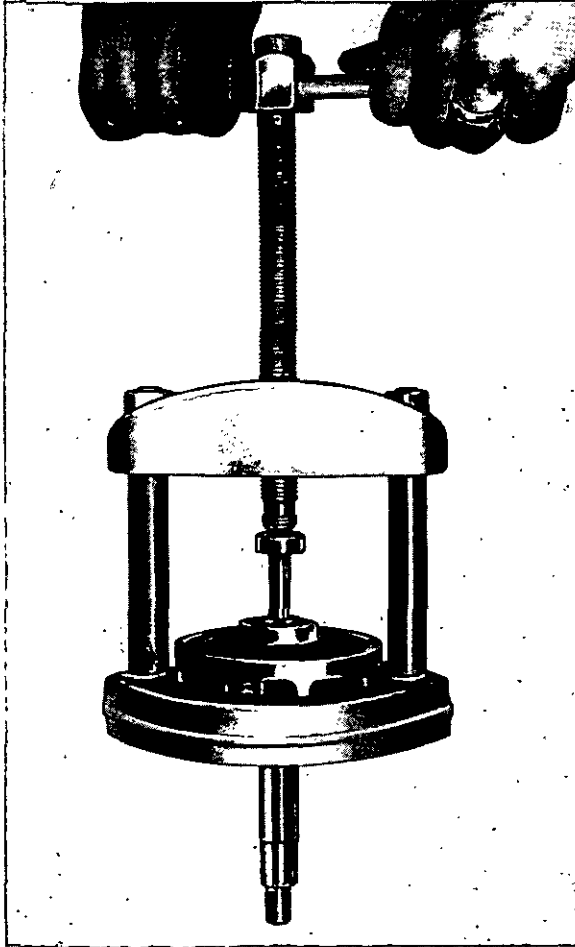

Fig. L.6.
3. Press the impeller from the shaft (Fig. L.6).